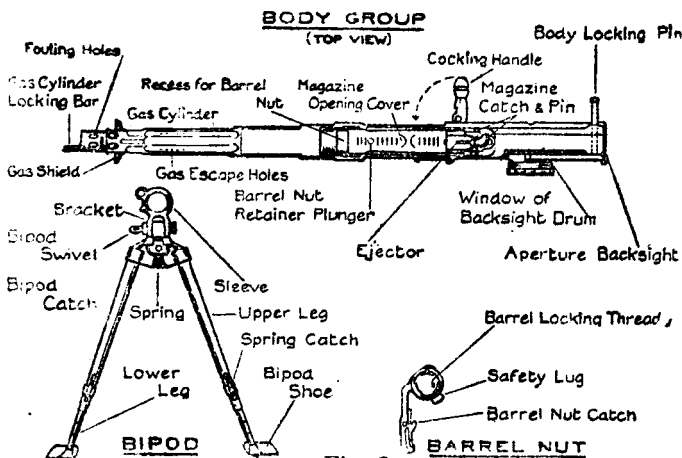

Fig. 8
- iv. Name principal parts of body group and bipod (see Fig. 8).